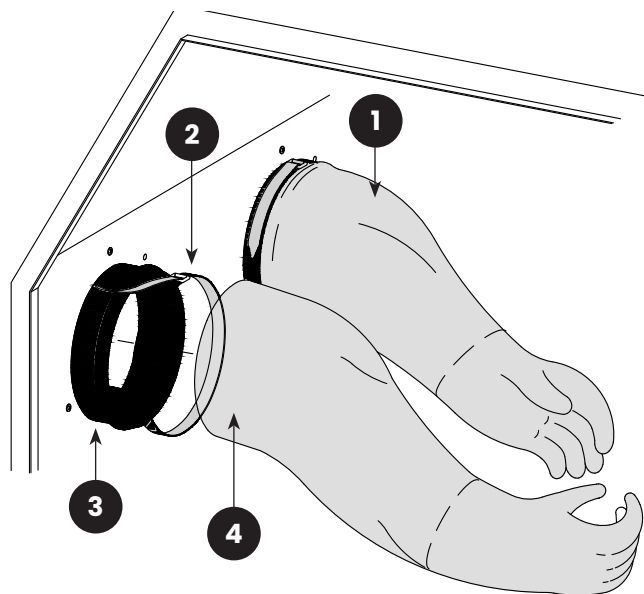

**FIGURE 7:** (1) Glove & Gauntlet Attached; (2) Hook & Loop Strap; (3) Armrest Glove Mount; (4) Gauntlet End of Glove
**6.1.2** | Remove old gloves: Glove gauntlets are stretched over glove mounts and held in place with hook and loop straps. To remove the old gloves, loosen the straps by pulling the hook end of the straps away from the loop material, as shown in Figure 7, and then pull the straps and gloves off the mounts.